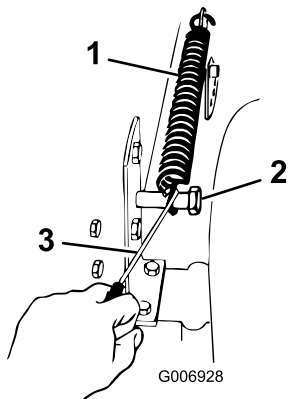

Figure 36
5. Remove the height-of-cut lift assist spring from the retaining bolt (Figure 36). The spring is between the frame and the right rear wheel.
13. Move the height-of-cut lever into the “D” notch. Hook the lift assist spring onto the retaining bolt for storage (Figure 36).